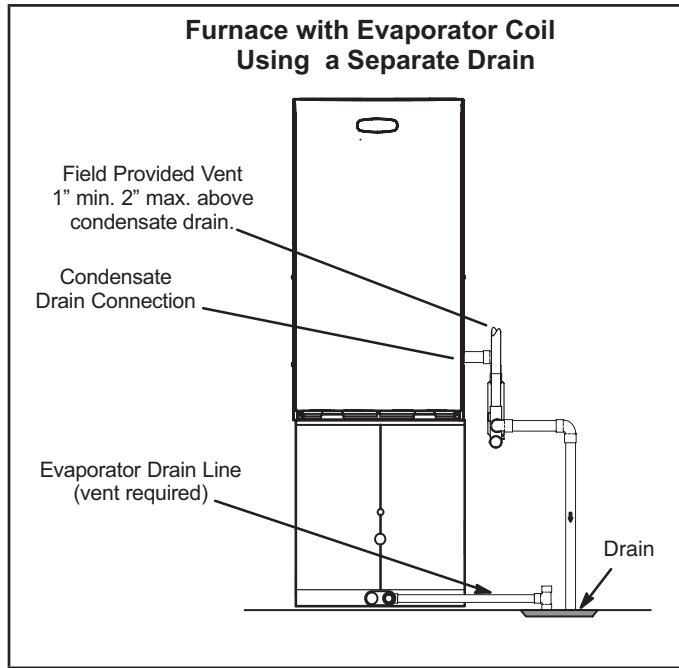
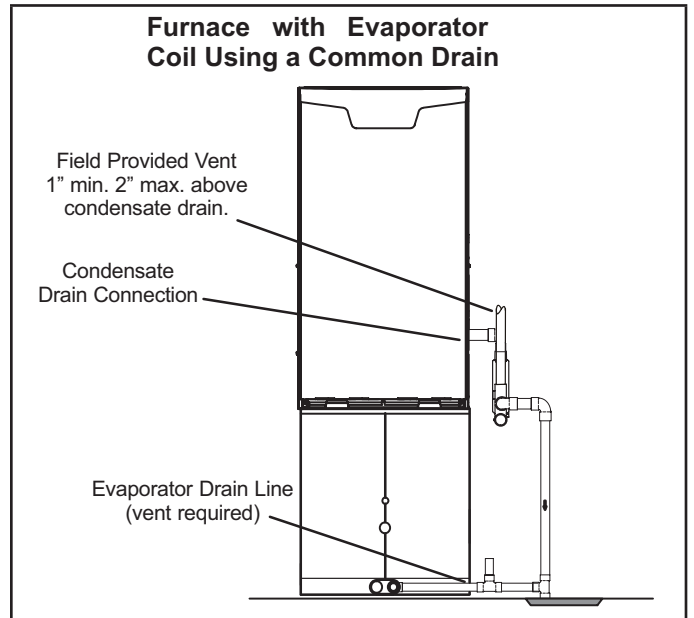

FIGURE 39
FIGURE 40
- 4 - FIGURE 39 shows the furnace and evaporator coil using a separate drain. If necessary, the condensate line from the furnace and evaporator coil can drain together. See FIGURE 40 and FIGURE 41. The field provided vent must be a minimum 1" to a maximum 2" length above the condensate drain outlet connection.